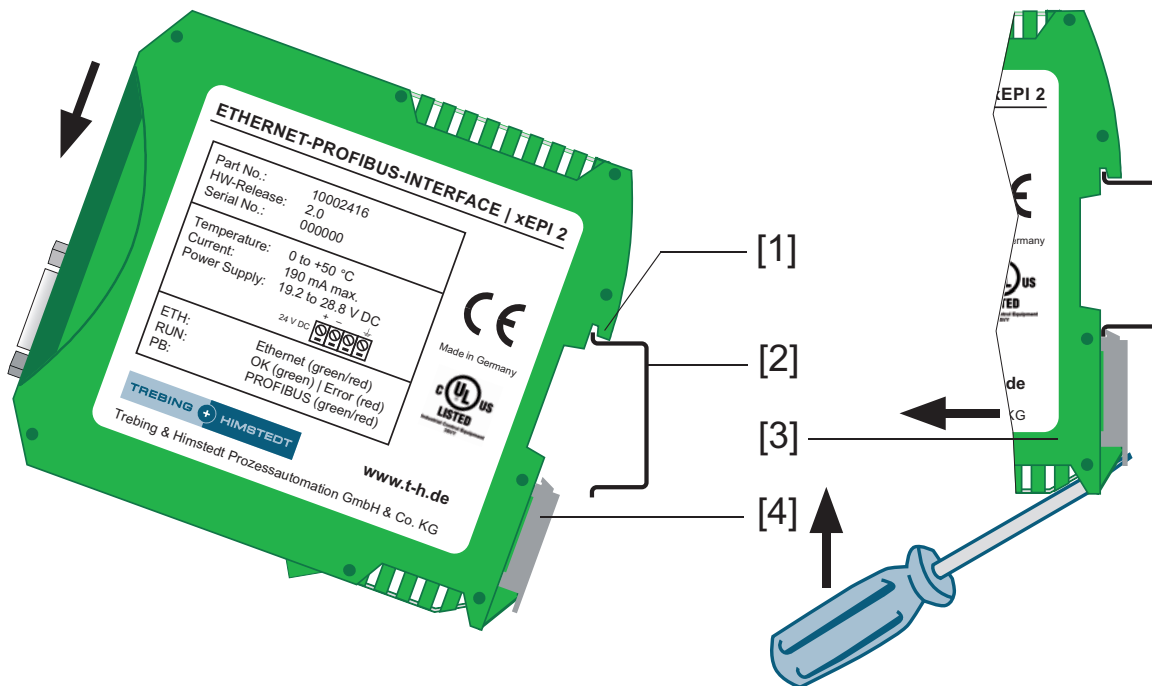

Fig. 2: Installing and removing of the xEPI 2
2. Place the screwdriver into the stop lever on the xEPI 2 (see figure 2).